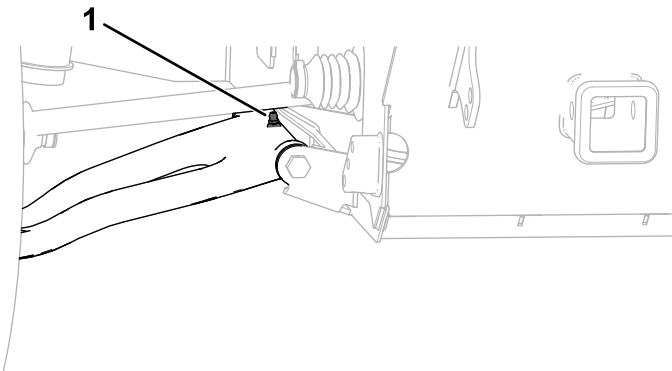

Figure 61
- **Front control arm pivots (2);** refer to Figure 61